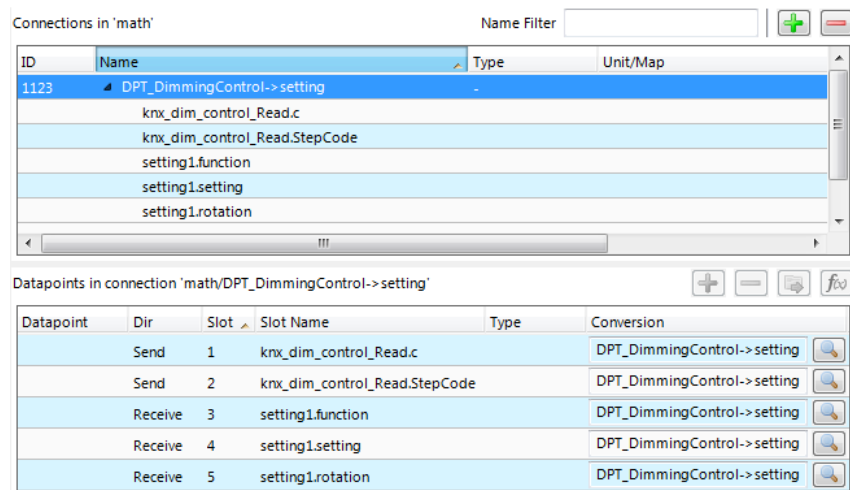

Figure 49: Created new multi-slot connection from math adaptor.
3. In the dialog **Select Multi-Slot Math Adaptor** select an existing adaptor and click **Select**. A new multi-slot connection is added to the connection list with empty slots as depicted in Figure 49.